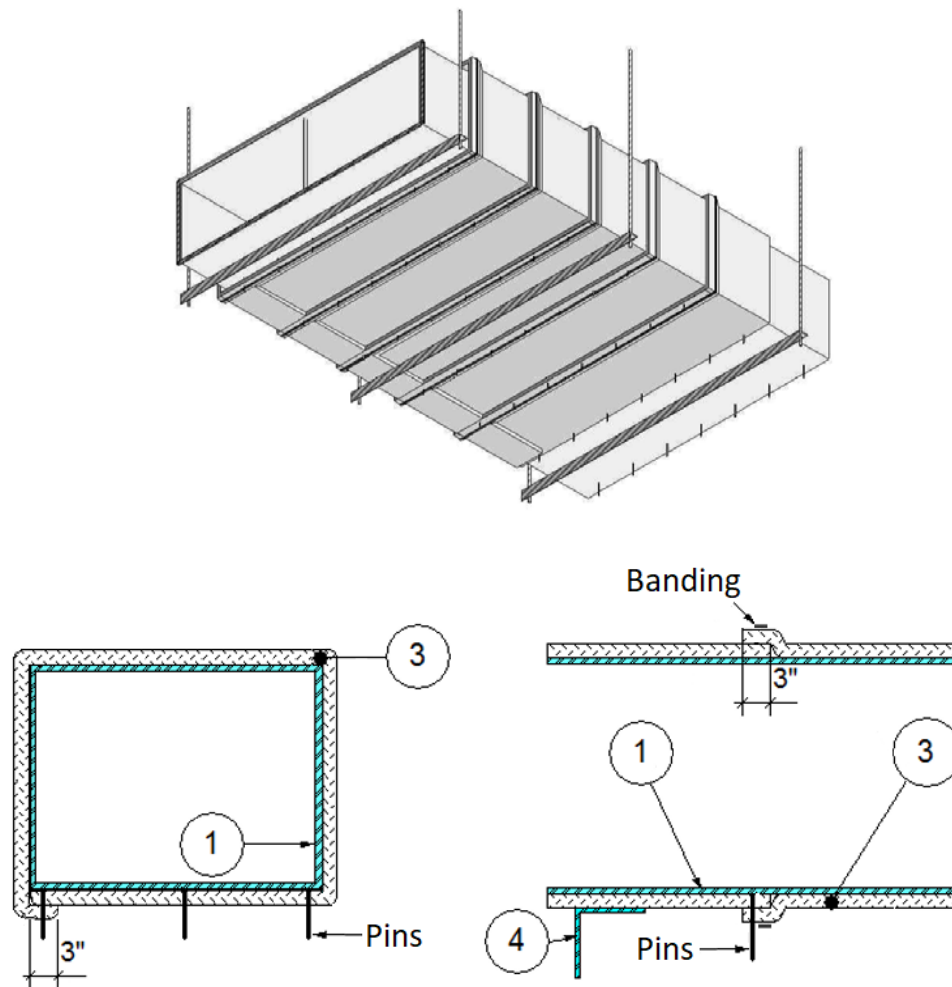

Figure 2. Pins and Banding Installation Method – Horizontal Ducts
B. PINS AND BANDING (HORIZONTAL DUCTS): Refer to Figure 2. Install pins on the bottom of the duct only, except at the firestop insulation collar (Item 7C), install the pins on all four sides. Follow the same requirements described in Item 2A for the pins only method, except as noted in this section. Ensure that the duct insulation (Item 3) transverse overlaps are located on the underside of the duct at either of the bottom corners. Use min. 1/2 in. wide by 0.015 in. thick stainless steel or carbon steel banding and min. 1 in. long stainless-steel crimp clips. Locate and install the bands at the center of each duct insulation (Item 3) transverse overlap. Tighten the bands securely at all locations.